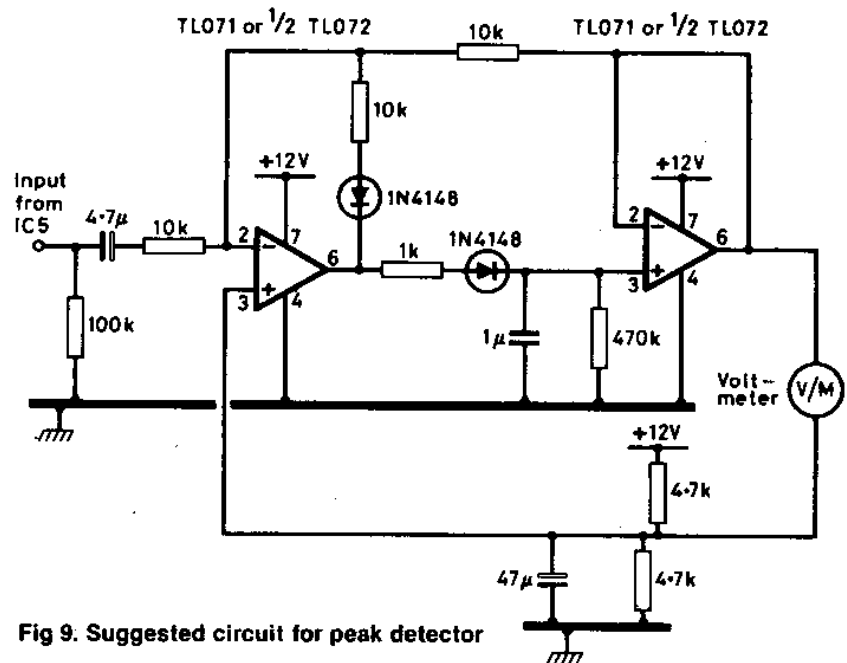

Fig 9. Suggested circuit for peak detector
3. A peak detector can be used (see suggested circuit in Fig 9) to give readings proportional to peak deviation. If the recommendations in the text are followed the IV/ kHz of peak deviation will be maintained.